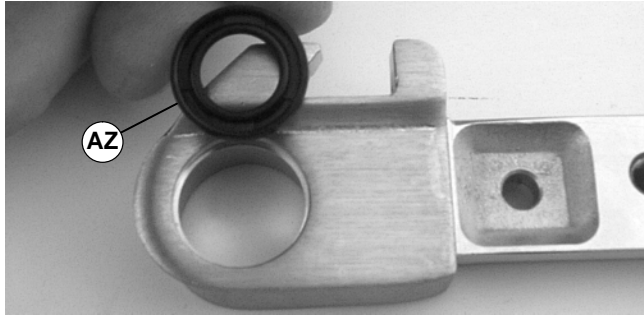

Figure 42
3. Install new seal (part # 807-1016) with grooved surface (AZ of Figure 42) facing out.